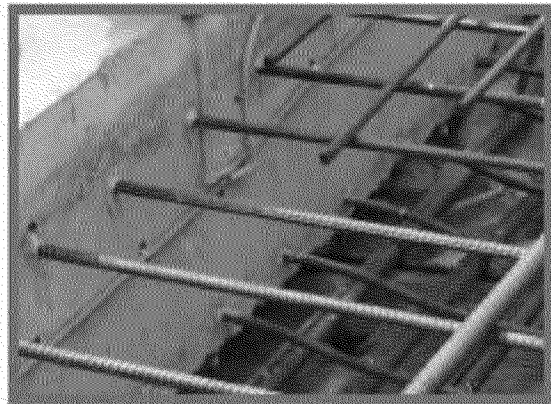

Figure 4. Position of trumpets.
3. The ends and beginnings of yellow INJECTO Tube lengths should be done as in figures 4 and 8 to prevent cross contamination during the resin injection process.